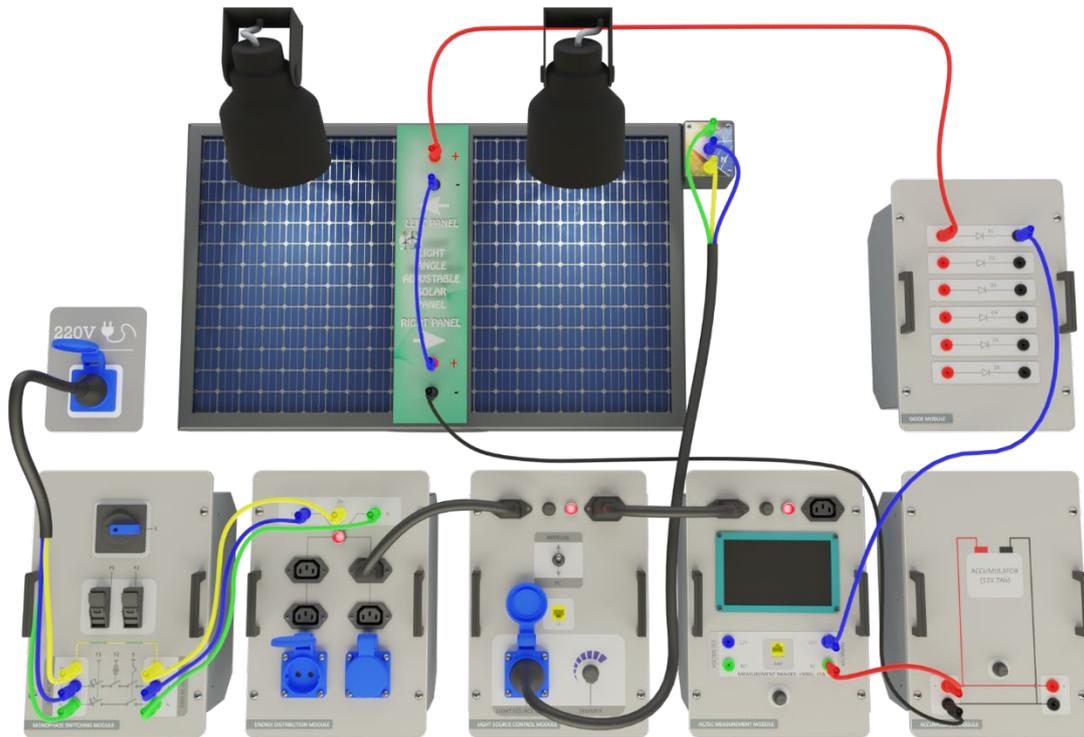

Figure-59. Installation Image of Examination of the Effect of Blocking Diode in Photovoltaic Panels
5. Make the connection as shown in Figure-59 and observe the ammeter to determine if there is a current flow from the battery to the panels.